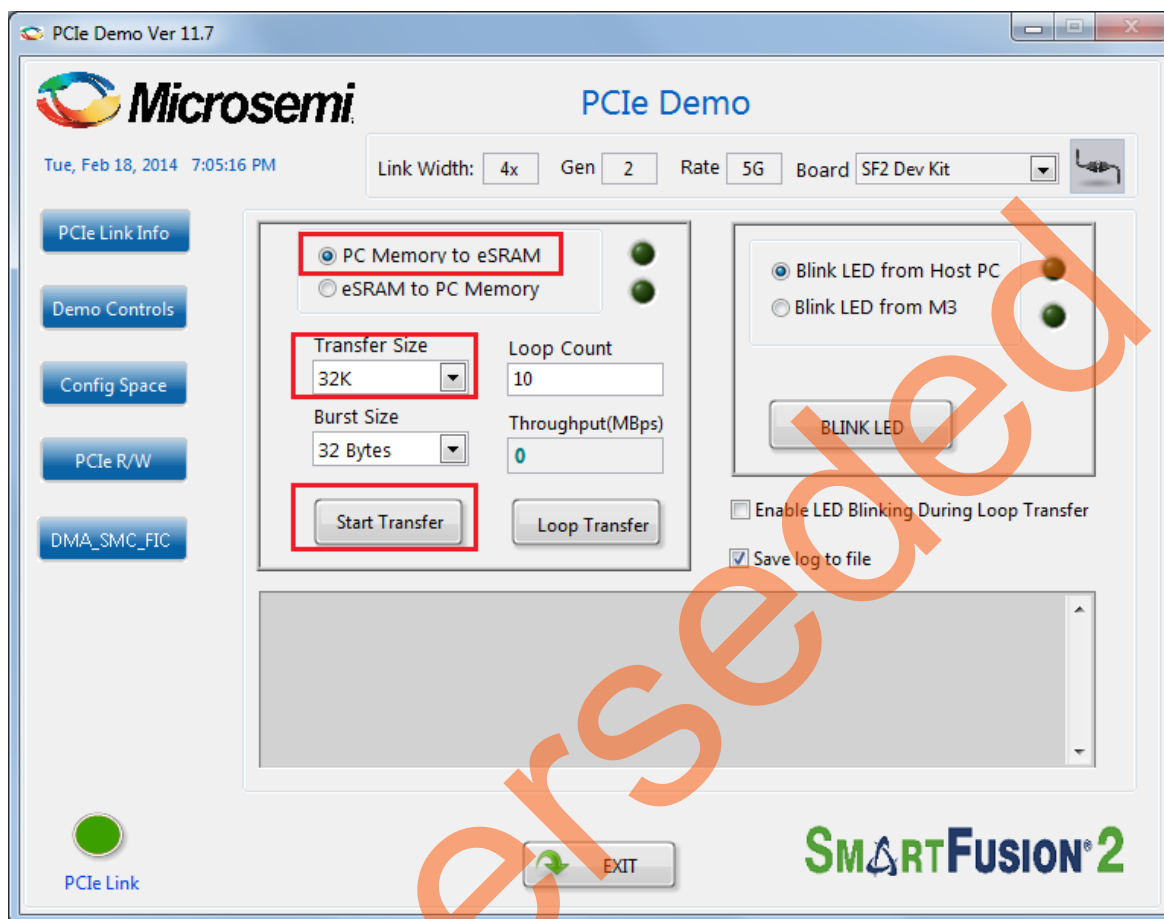

Figure 25 • DMA Transactions between Host PC Memory and eSRAM
17. Click **Start Transfer**. Figure 25 shows the DMA Transactions between Host PC Memory and eSRAM.